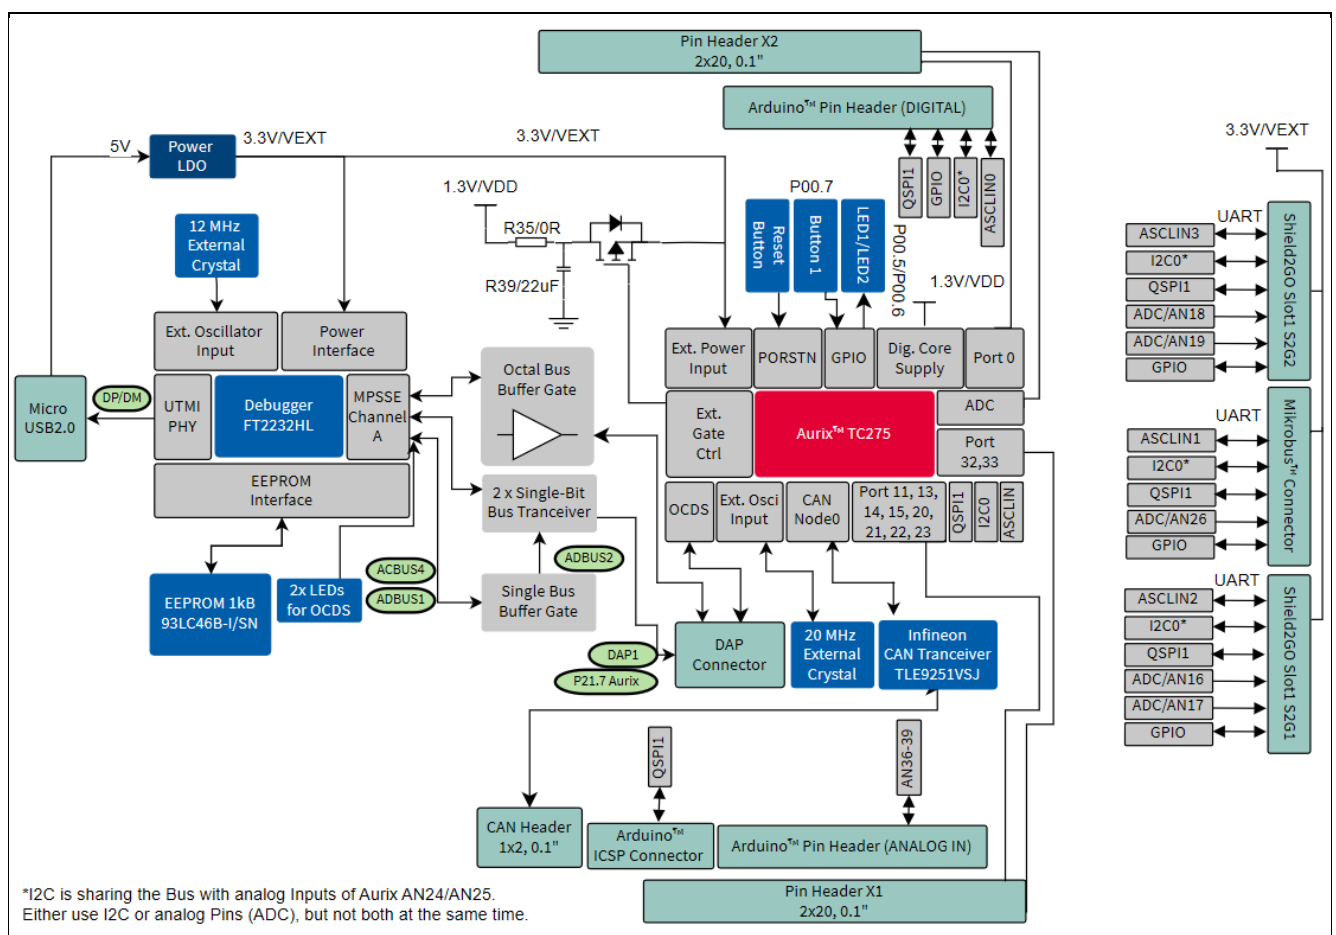

Figure 1 **Block Diagram of the Aurix™ TC275 Lite Kit**
- The block diagram in Figure 1 shows the main components of the Aurix™ Lite-Kit V1.1 and their interconnections.